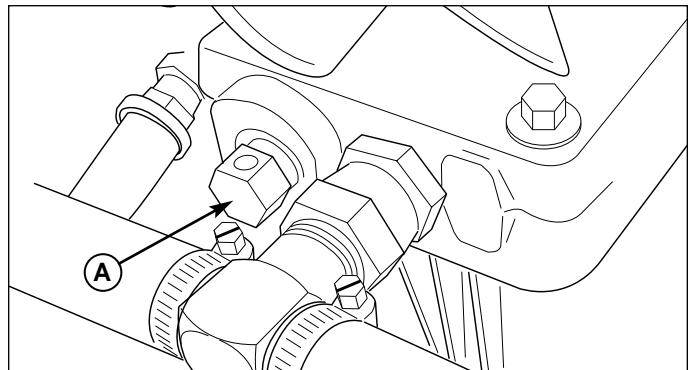

Figure 3. Hydraulic System By-Pass
3. To disengage the pumps (free-wheel position), turn the hydraulic release valves (A, Figure 3) located on the pumps **COUNTER-CLOCKWISE** a maximum of 2 full turns.